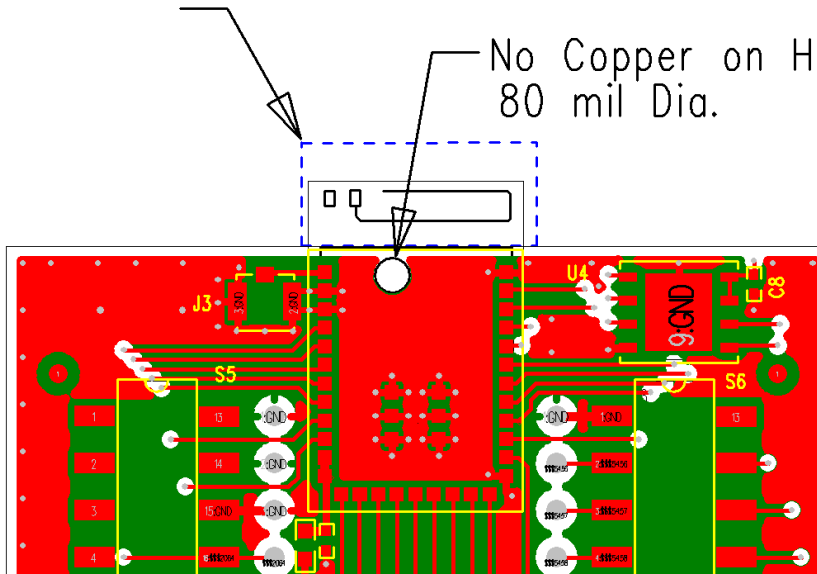
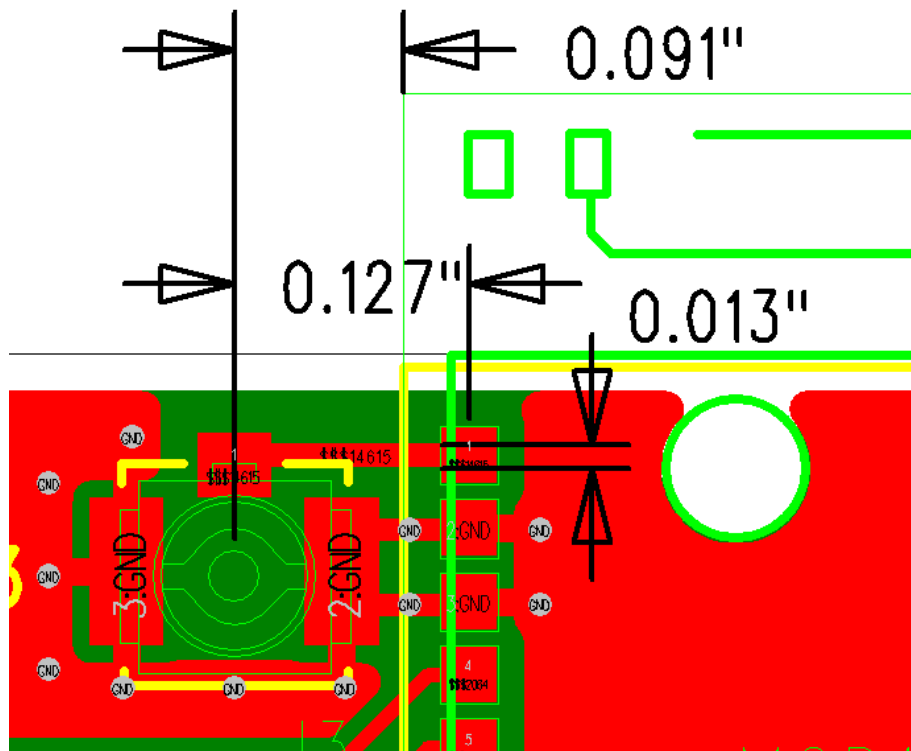

Figure 5 Host PCB Details
Figure 6 External Antenna Connector and Host PCB RF Trace Details
In order to use the modular certification for your design, it is critical that the reference design is correctly followed. The full PCB reference design is shown in Figure 4, Schematic Figure 7, and Bill of Materials Table 9. It is not required to replicate the entire design, but what is required is the circuitry and layout as it pertains to the antenna configuration as shown in Figure 5 and Figure 6.
When using the PCB Trace Antenna version of the module (Part Number 450-0119), the PCB layout shown in Figure 4, Figure 5, and Figure 6 should be followed. It is acceptable to keep the U.FL circuitry J3, or it may be removed from the PCB to save component cost. By keeping the external U.FL circuitry, the design can accommodate both antenna versions of the module. To minimize the influence of de-tuning to the module PCB trace antenna, it is recommended to extend the antenna end of the module off the edge of the host PCB. Another alternative is to have a cutout notched in the host PCB such that there is no PCB underneath the antenna end of the module.
When using the External Antenna Port version of the module (Part Number 450-0144), and one of the three certified 2.4 GHz antennas (Dipole Antenna and U.FL to RPSMA Cable, FlexPIFA, or FlexNotch), the PCB layout shown in Figure 4 should be followed. The U.FL connector J3 must be populated, and a controlled impedance microstrip trace ran between the module RF output pad and the U.FL connector as shown in the Reference Design PCB Figure 4, Figure 5, and Figure 6) and the Schematic Figure 7.
Note the “No Copper” keep out requirement on the host PCB shown in Figure 5 above.
3. The ground plane from the host PCB, and metal of any type, should be kept a minimum of .5" from the antenna circuitry to the left, top, and right of the dashed line shown in Figure 5.